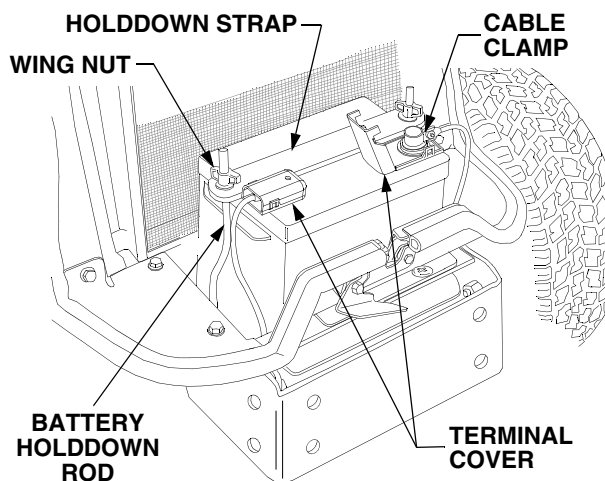

Figure 35
- Remove the two wing nuts and the battery holddown strap from the battery holddown rods. See Figure 35.
- Spread the locking clips on the sides of the terminal covers and lift the tops of the covers to expose the battery connections. See Figure 35.